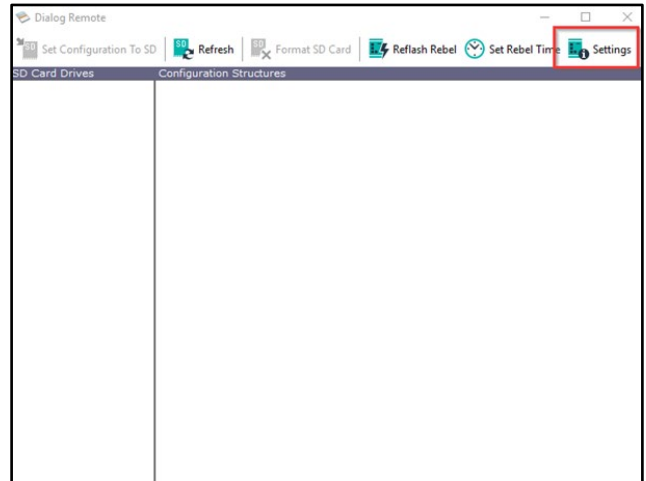

Figure 10
2. Open “Dialog Remote” and click “Settings” (refer to Figure 10).